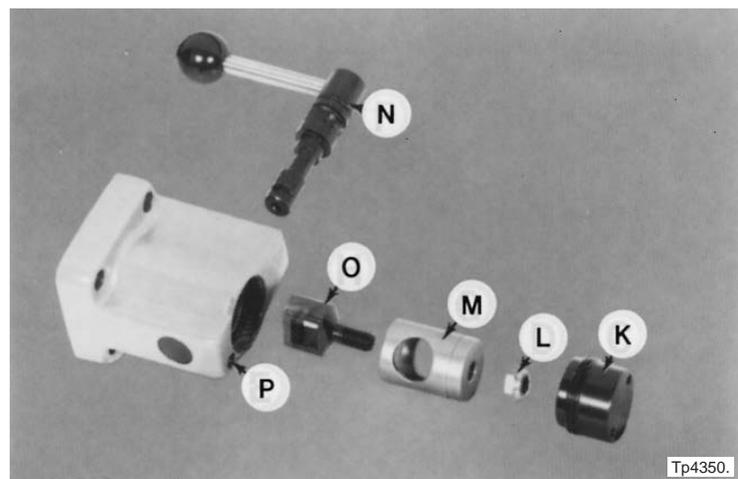

Figure 1.23 - Clutch Housing and Components
- b) Remove cap "K" and nut "L", Figure 1.23, from each clutch housing.
- a) Replace bolt “O” and sleeve “M”, Figure 1.23, in each clutch housing.
1. Using a spanner wrench, remove threaded cover "K", Figure 1.23, from each clutch assembly.
3. Replace threaded cover "K", Figure 1.23, on each clutch assembly.